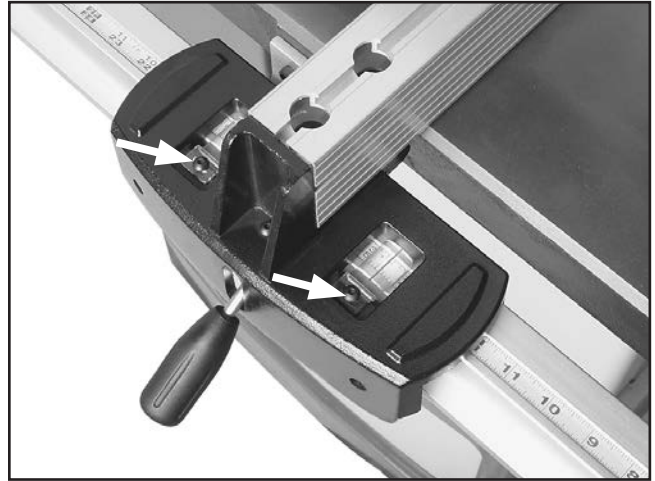

Figure 39. Scale calibration screws.
4. If the reading on the scale is not the same as the width of the cut workpiece, loosen the screws on the magnifying window (see **Figure 39**) and adjust it to match the width of the cut workpiece.